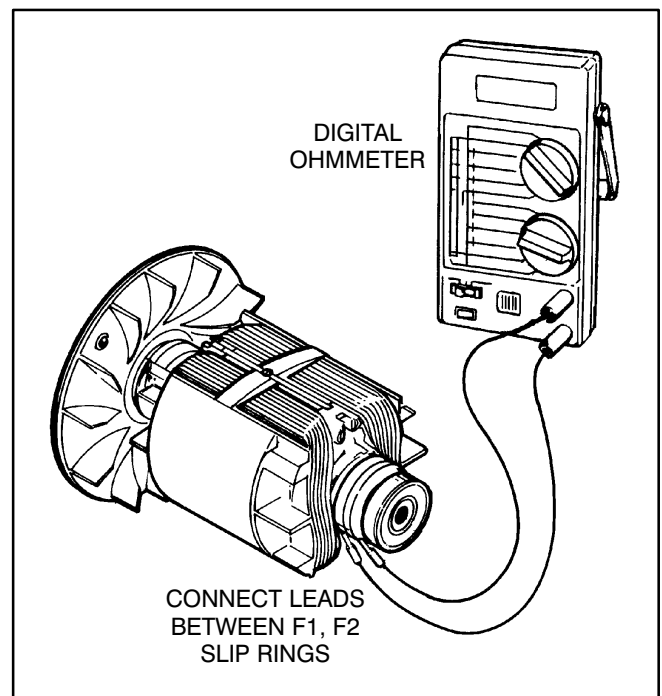

FIGURE 8-10. TESTING ROTOR FOR AN OPEN
2. Using ohmmeter, check resistance between F1 and F2 leads (25.47 ohms \pm 10%), Figure 8-10.